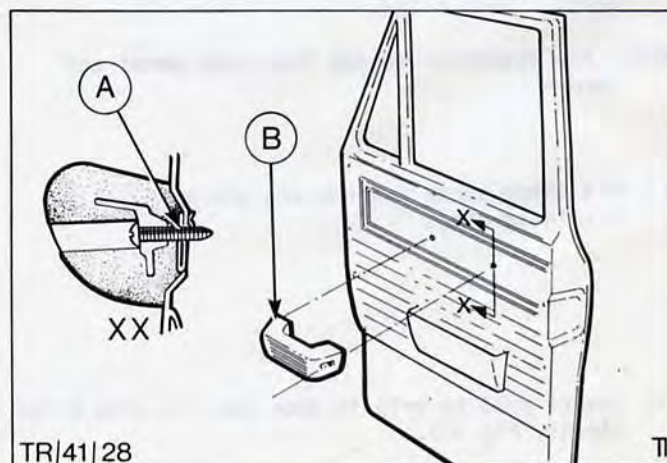

Fig.104. Door trim panel.
29. Fit door trim panel, window crank, inner door handle and armrest, Fig. 104.